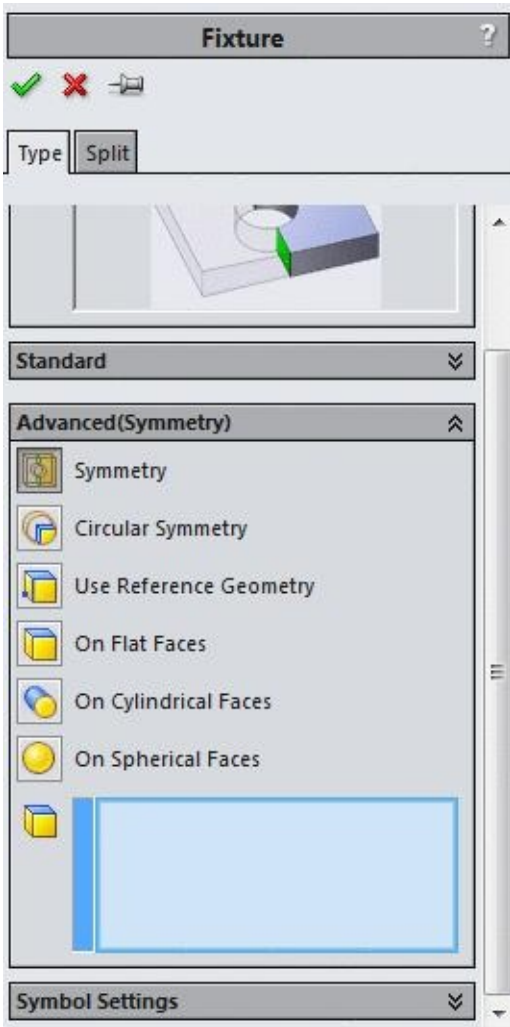

Figure-40. Fixture PropertyManager with symmetry option
- Click on the desired link from the **Simulation Advisor**. For the current example, click on the **Mirrored** link button and then click on the **Add symmetry fixture on solid faces** link button from the **Simulation Advisor**. The **Fixture PropertyManager** will be displayed; refer to Figure-40.